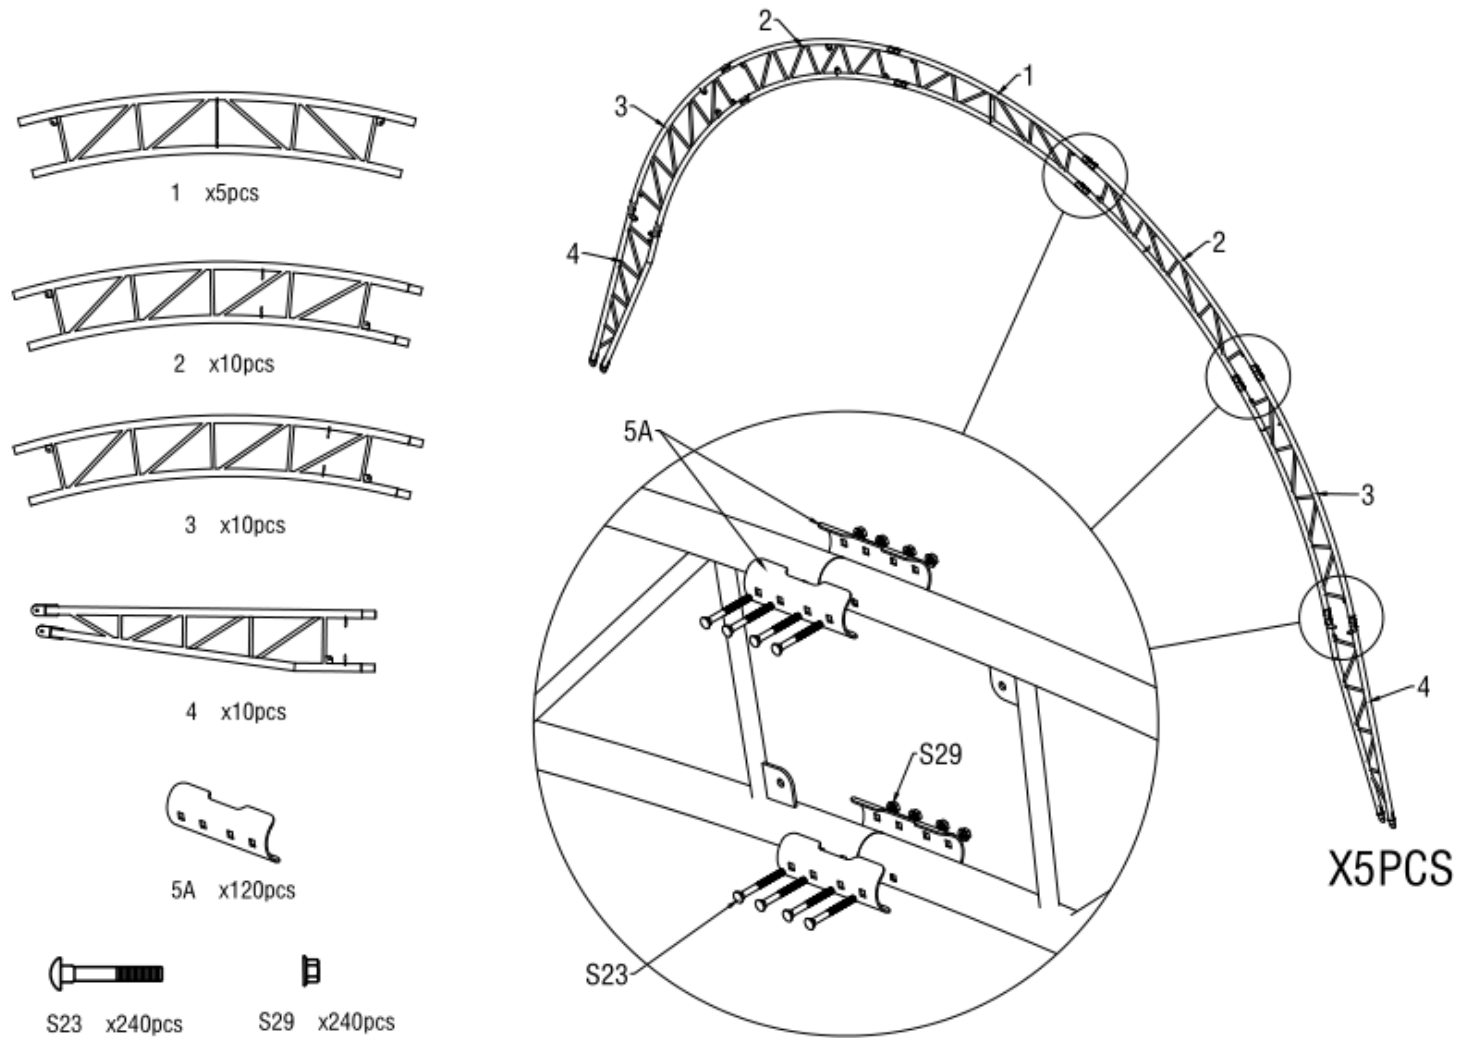

Figure 4
2. As Figure 4 shown to find one Top roof tube (No.1), two Roof upper curving tube (No. 2), two Roof middle curving tube at shoulder (No. 3) ,two Lower curving tube (4) and assemble every group arch with Screw M8x80 (No.S23). **DO NOT install the screw on the top of the truss where the fabric will rest.**
Note: Top Roof tube,Roof curving tube and Lower curving tube (No.1A,2A,3A&4A) which are welded with steel plates for front and back doors are different from the middle arch.(Figure 4)